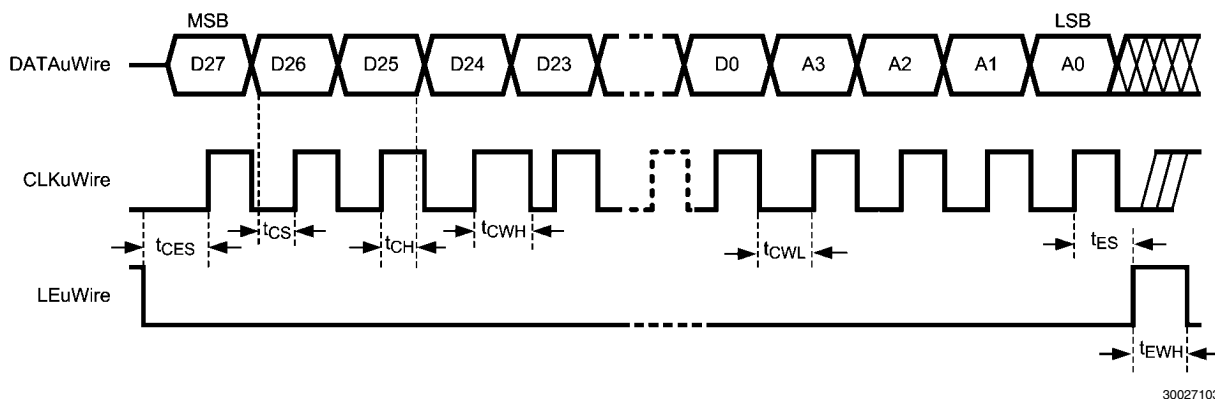

FIGURE 2. uWire Timing Diagram
31), and the LSB (bit 0) last. During programming, the LE signal should be held LOW. The serial data is clocked in on the rising edge of the CLK signal. After the LSB (bit 0) is clocked in the LE signal should be toggled LOW-to-HIGH-to-LOW to latch the contents into the register selected in the address field. Registers R0-R4, R7, and R8-R15 must be programmed in order to achieve proper device operation. Figure 2 illustrates the serial data timing sequence.